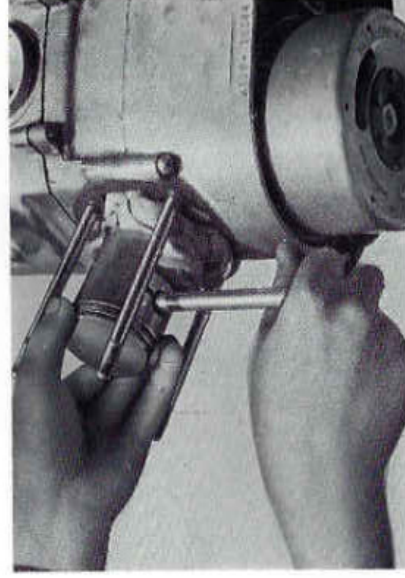

Fig. 8-2-2
2. Cover the crankcase opening with clean rags to prevent a piston pin circlip from dropping into the crank chamber when removing it. Remove one **piston pin circlip** from the piston with a small screw driver or nose plier. (Fig. 8-2-1) Be careful not to lose piston pin circlip as sometimes it springs away. Now **piston pin** can be removed easily by pushing the other end of it with a rod. (Fig. 8-2-2)